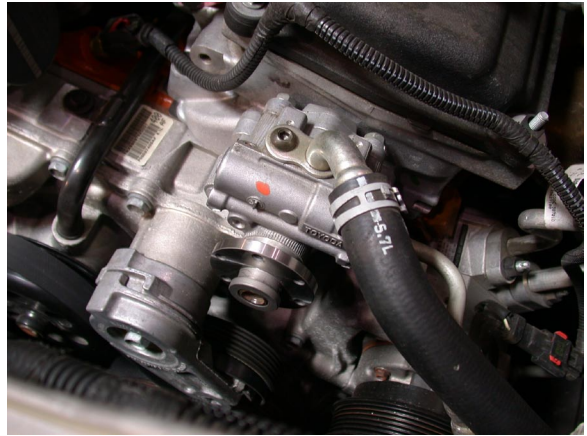

Fig. 1-a (5.7L P/S Pump Shown)
- H. Install the supplied power steering pulley hub onto the power steering pump so that it is flush with the end of the shaft. (See Fig. 1-a)